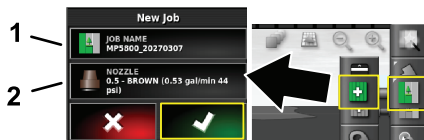

Figure 11
- Press the job icon at the right side of the screen (Figure 11).
- Press the name for the job (Figure 11).
- Press the job icon in the upper right of the screen (Figure 11).